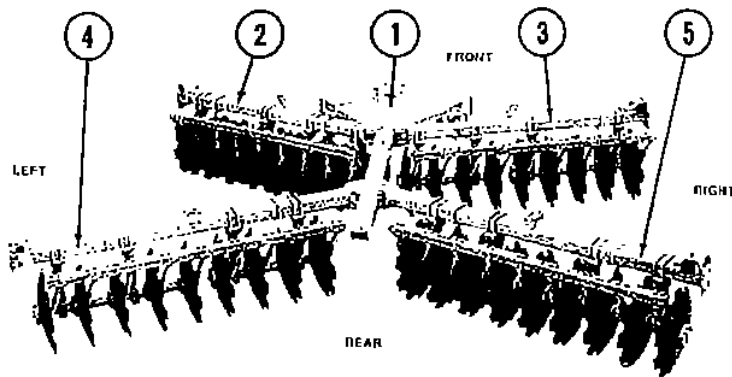
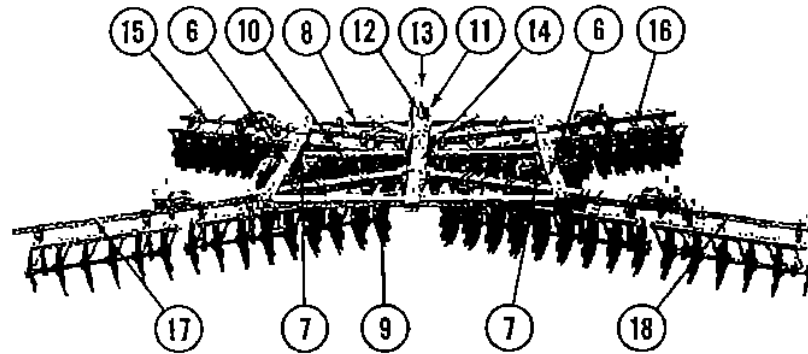

FIG. 12
FIG. 13
2. Position the *Center Frame Bundle* (Item 1, Fig. 12) Bundle No. 200910 in the center of the work area. Block the center frame bundle up approximately 3 feet off the ground level.
3. Position the *Left and Right Front Gang Bundles* (Bundle Nos. 201246, 201247, or 201324, 201325) (Items 2 & 3) as shown in Fig. 12. Block up the bundles so they will be in an upright position. Remove the gang bolt ($\frac{3}{8}$ " x $6\frac{1}{2}$ ") and bushings. Position the spacer bushing into the center frame bracket and attach the ends of each front gang bundle onto the bracket provided on the center frame bundle (Item 1).
4. Set the *Right and Left Rear Gang Bundles* (Bundle No. 201248, 201249, or 201326, 201327; Items 4 & 5, Fig. 12) in position as described in Step 3 and secure to the center frame (Item 1) as shown in Figure 12.
5. Remove the bolts from both ends of the *Side Frame Bundle* (Item 6, Fig. 13) Bundle No. 201340. Spread the front and rear gang frame bundles (Items 2, 3, 4 and 5) by pushing the front gang frames forward and the rear gang frames towards the rear. Position the side frame members so that the wheel axle bearing (Item 7) is to the front and downward. Slide the open end of the side frame member over the front gang-tube approximately 53" from the gang connector cuff. Then slide the other end of the side frame over the rear gang tube. Close the front and rear bundle by pushing the front gang bundle backward and the rear gang bundle forward. Repeat this procedure on the other side.
1. Remove the wing connector pin and the bushing from the wing gang frame (Items 15, 16, 17 and 18, Fig. 13) insert the bushing into the main frame gang hinge (Items 2, 3, 4 and 5, Fig. 12). Position the wing bundles in their respective positions and pin with the wing connector pin previously removed.